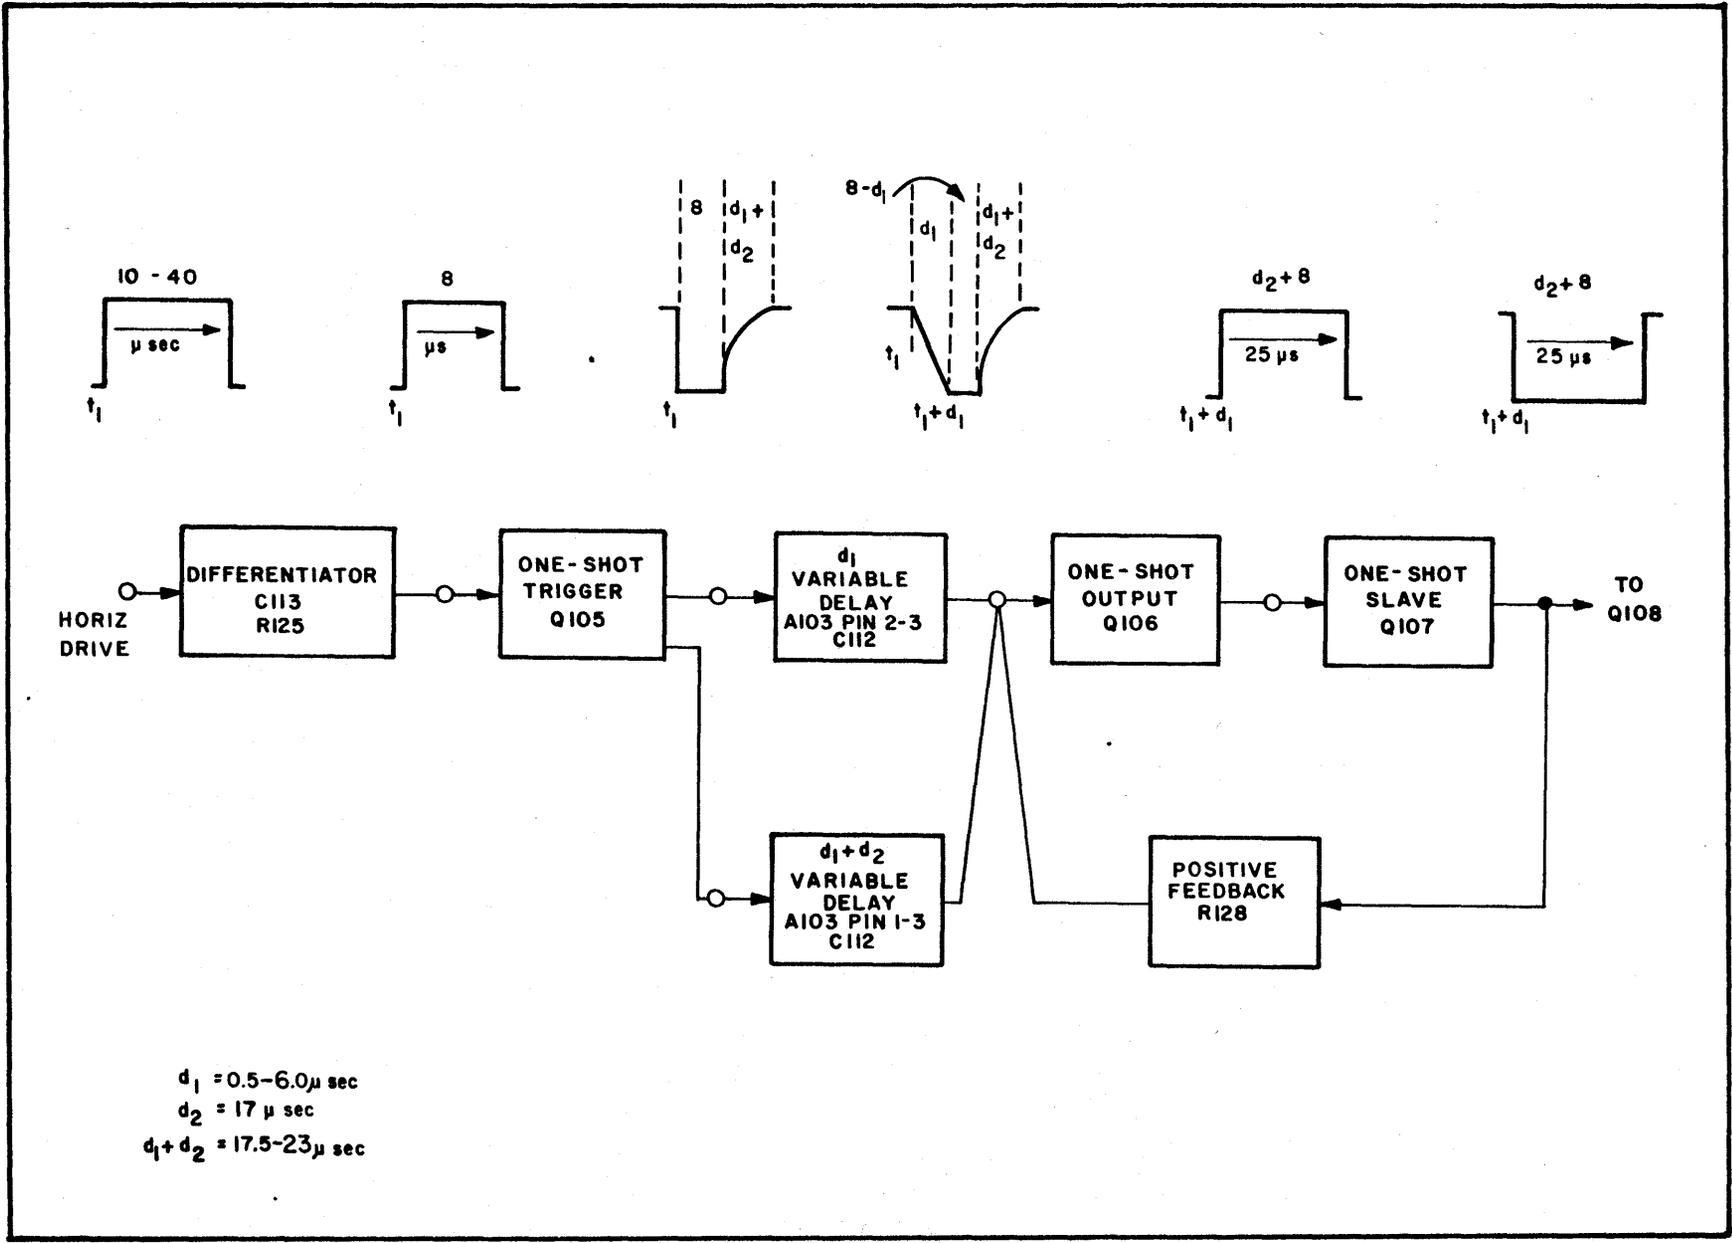

Figure 4-1 Horizontal Drive Processing and Timing Chart
4.3.1 Low Level Stages (Figure 4-1)